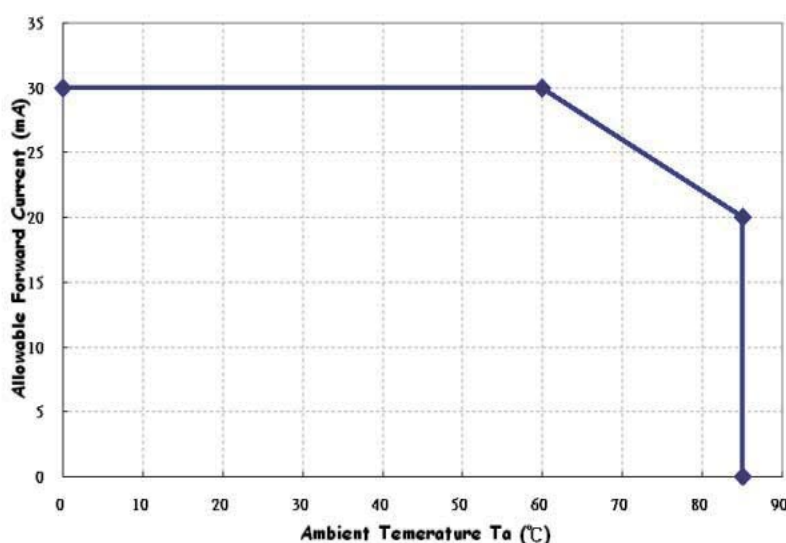

Figure 1. forward current vs ambient temperature
2. the max value of LED forward current is relative to ambient temperature,the correlation is show in figure 1.